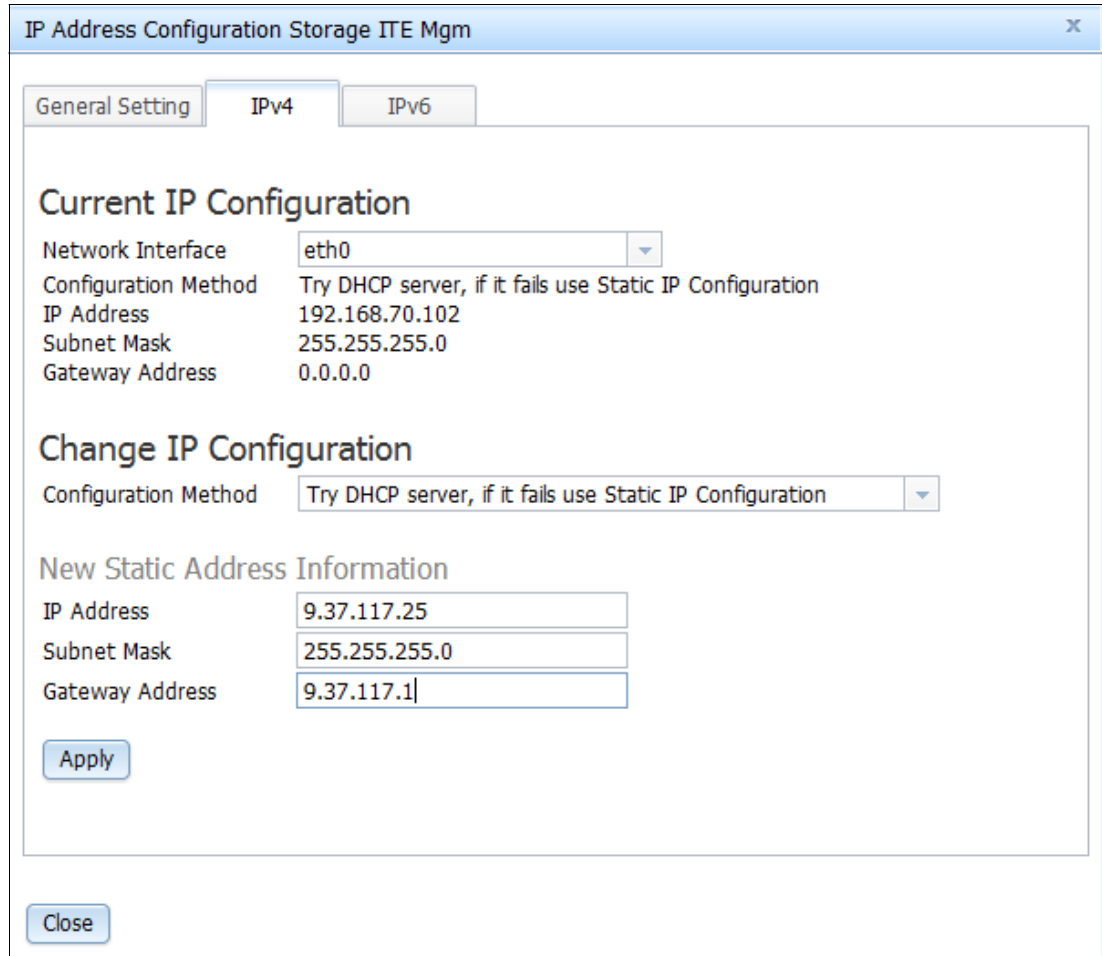

Figure 3-9 IP Address Configuration
- To configure the IP address of a certain chassis component, click the component (*under Device Name*), as shown in Figure 3-9.